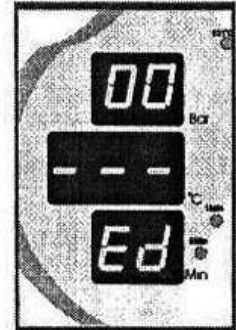

Fig 5-6
5.2.7 When a cycle completes, the display shows "Ed" the indication light "RUNNING" turns off and the indication light "READY" turns on. At this time You may then open the chamber door and unload the Instruments which are sterilized. (Fig 5-6) At the same time, temperature indicate "prt" , it means that it is Performing print, whether you Performing print, whether you Have install printer,the process can not be omitted. But you needn't care about it. It will not effect the process of opening the door and unloading the instruments. Print process will Disappear automatically.